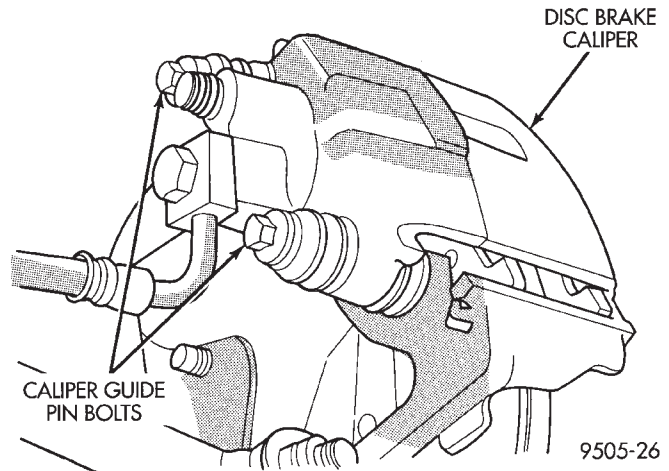

Fig. 97 Caliper Guide Pin Bolts
(1) Raise vehicle on jackstands or centered on a hoist. See Hoisting in the Lubrication and Maintenance section of this manual.
(2) Remove rear wheels and tires from vehicle.
(3) Remove the 2 guide pin bolts mounting the caliper to the adapter (Fig. 97).
(8) Install caliper guide pin bolts into adapter. (Fig. 97). Tighten the guide pin bolts to a torque of 22 N·m (192 in. lbs.).
(9) Install the wheels and tires.
(10) Tighten the wheel mounting stud nuts in proper sequence until all nuts are torqued to half specification. Then repeat the tightening sequence to the full specified torque of 135 N·m (100 ft. lbs.).
(11) Remove jackstands or lower hoist.
(12) Check brake fluid level.